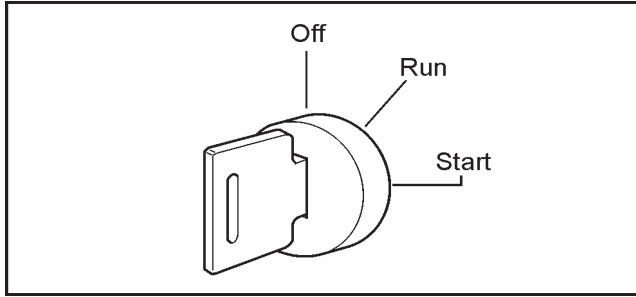

Figure 3-3. Ignition Switch.
1. Place the gearshift in the neutral (N) position.
3. Turn the key to the "START" position. (See Figure 3-3).